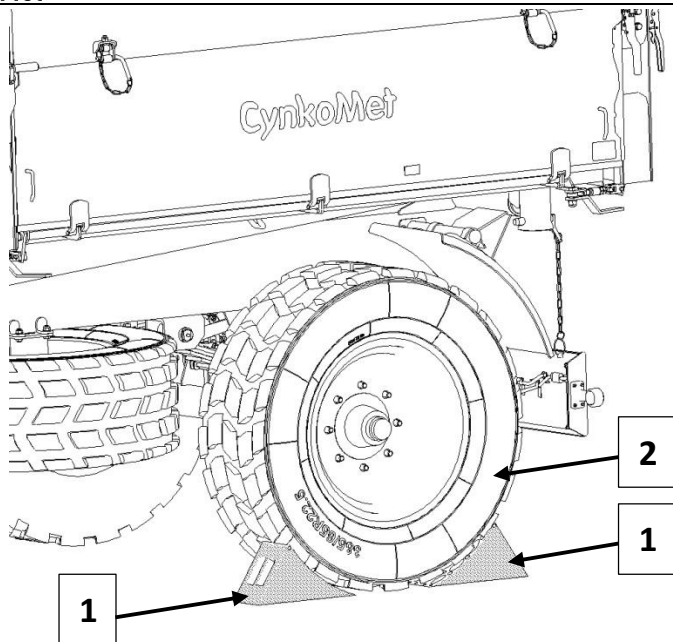

Figure 3. The way of placing the chocks.
- It is forbidden to park on the slopes with a loaded and unsecured machine. Securing is based on stopping with the service brake, parking brake and planting chocks under the wheels. The chocks (1) should be planted only under one wheel (2) (one front wheel and one on the back - Fig. 3). The chocks should not be placed under the front wheels.